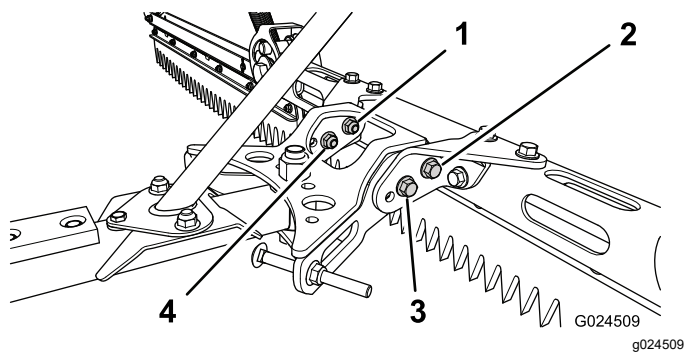

Figure 24
- Remove the **front** nuts and bolts securing the rake assembly to the bracket (Figure 24).